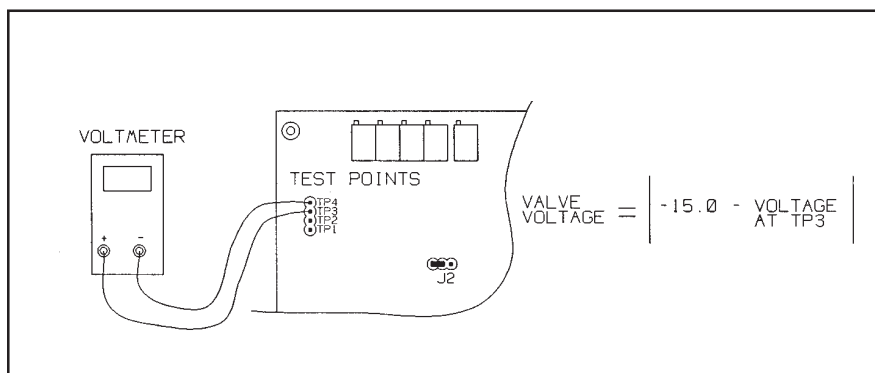

Figure 4-3 Voltmeter Connections for Valve Adjustment
3. Measure the valve voltage by connecting a voltmeter between test point 3 (TP3) and test point 4 (TP4). Refer to Figure 4-3.